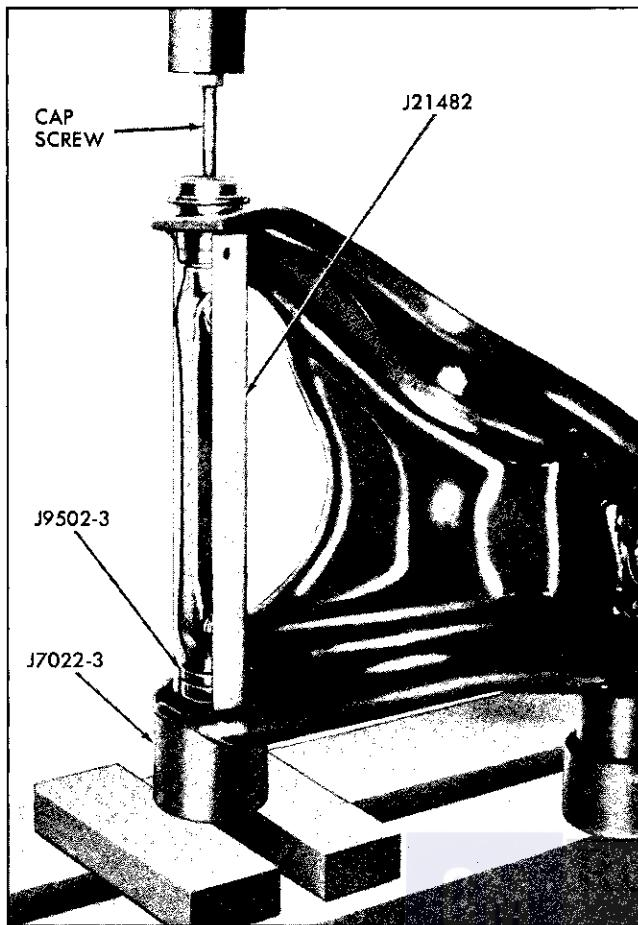

Fig. 3-12 Removing Upper Control Arm Bushing
3. Support control arm in an arbor press on tool J 22899 and J 21482-2 as shown in Fig. 3-12.
4. Press out bushing using tools shown in Fig. 3-12, invert control arm and repeat process on other bushing. Discard bushings.
NOTE: If bushing rubber is deteriorated to the extent that the bushing sleeve cannot be pushed out, release the press, install J 9502-3 as shown in Fig. 3-12 and press out the sleeve.